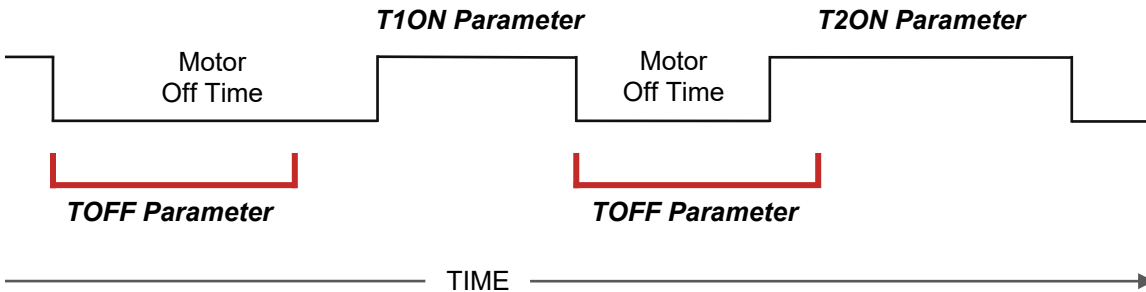

Figure 15 – Motor On and Motor Off Times
- In essence, the length of the last OFF cycle determines whether the subsequent ON cycle will be relatively long or short. **Figure 15** illustrates how the system dynamically adjusts the motor-on time based on the duration of the previous OFF cycle.